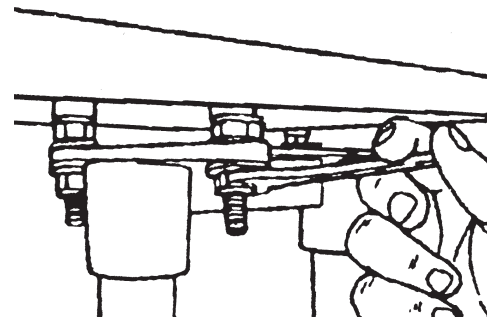

Figure 88
2. Use a 1/2" Wrench to loosen the Bottom Nuts holding the Table Base to the Table approximately 1/2" from the bottom of the Table. This will allow you room for later adjustment. See in Figure 88.